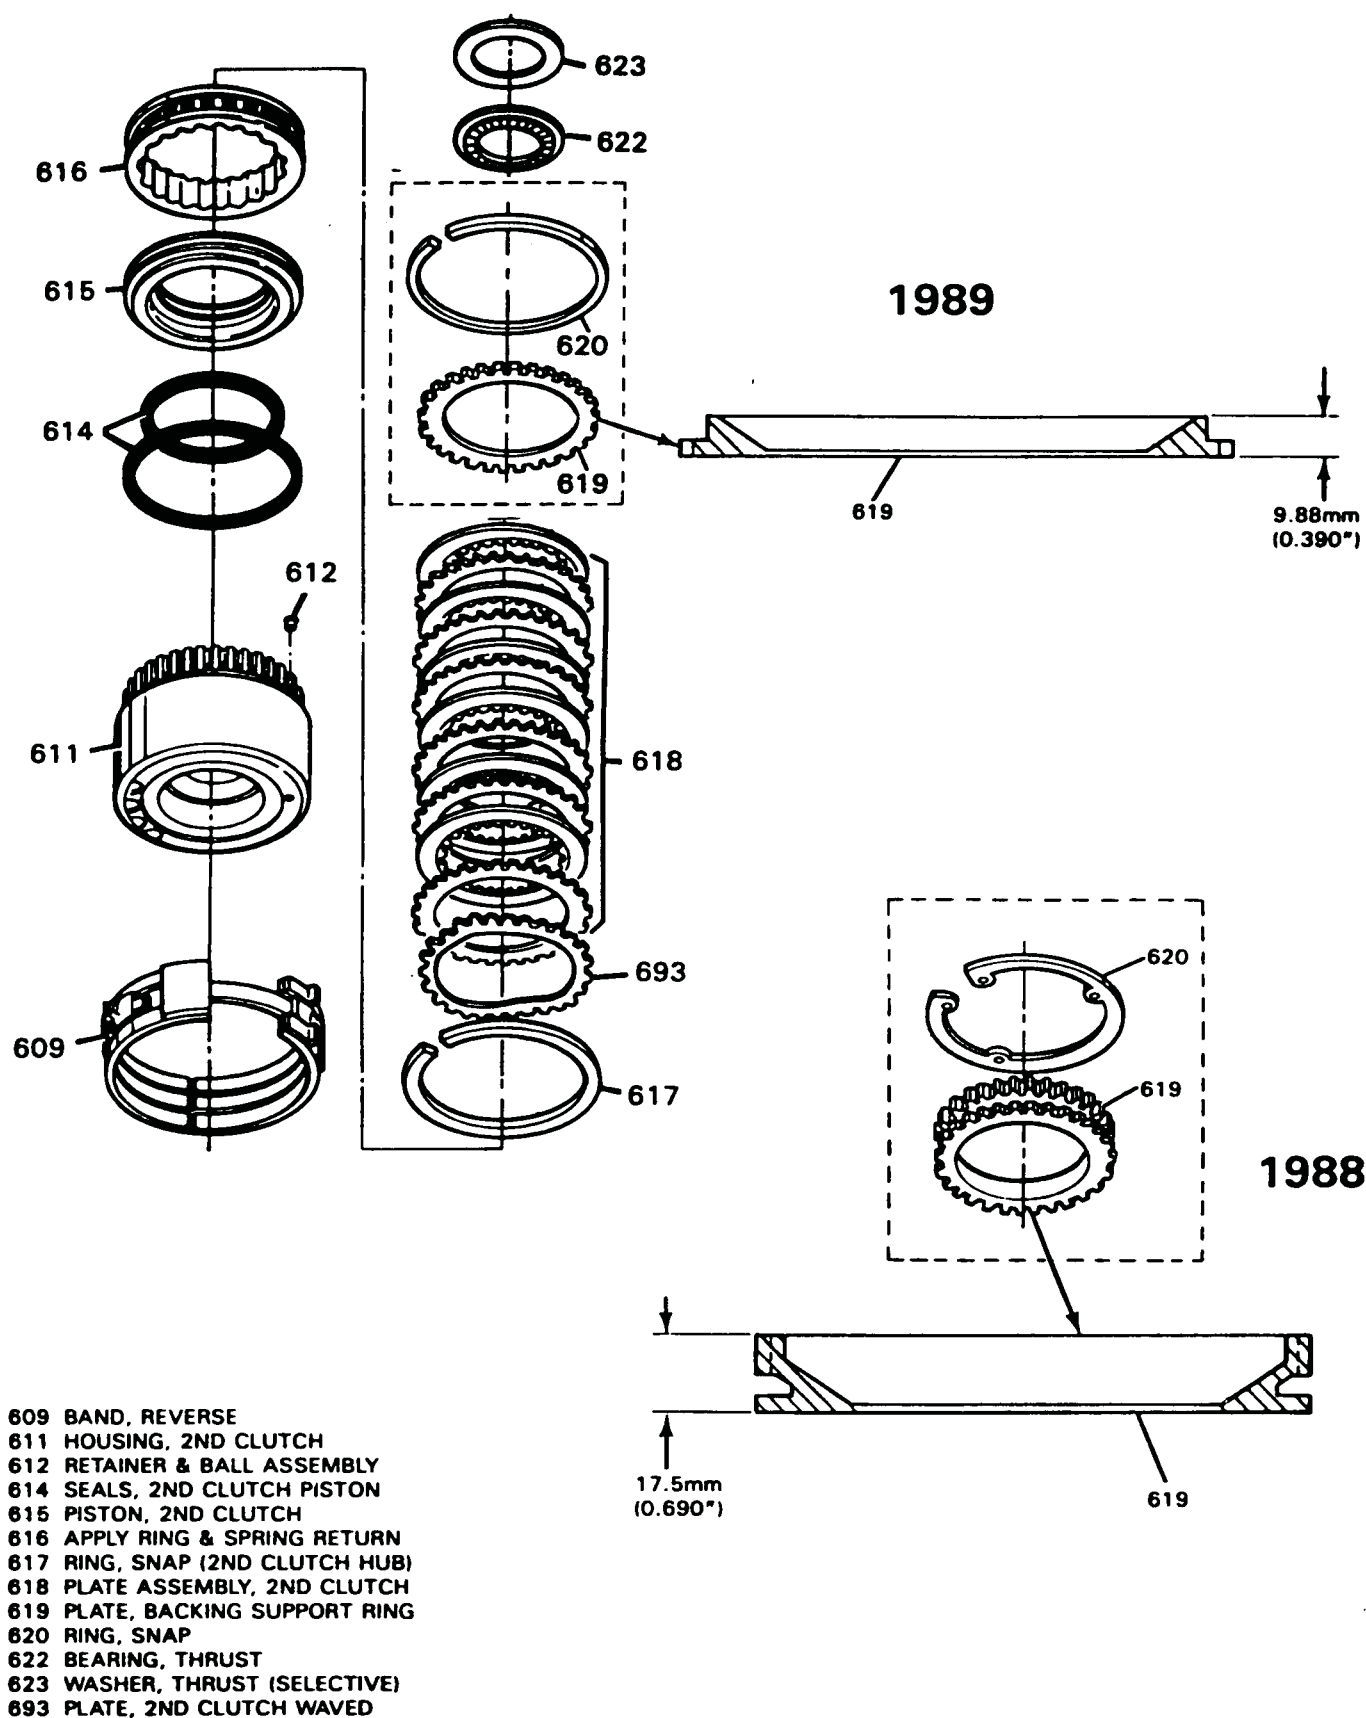

Figure 88
CHANGE: 2nd Clutch Backing Plate was redesigned (See Figure 88).
- (1) 2nd Clutch Backing Plate - "Windows" in backing plate are eliminated which makes the backing plate less prone to warpage. Also notice (See Figure 88) that the support ring has been eliminated from the backing plate and is no longer used, because "Engine Torque Management" was added as an ECM function. This was one of the reasons for the addition of the 2nd clutch switch in 1988.
- (2) 2nd Clutch Backing Plate Snap Ring - The new snap ring is only half as wide as the previous models and must be used with the third design backing plate.